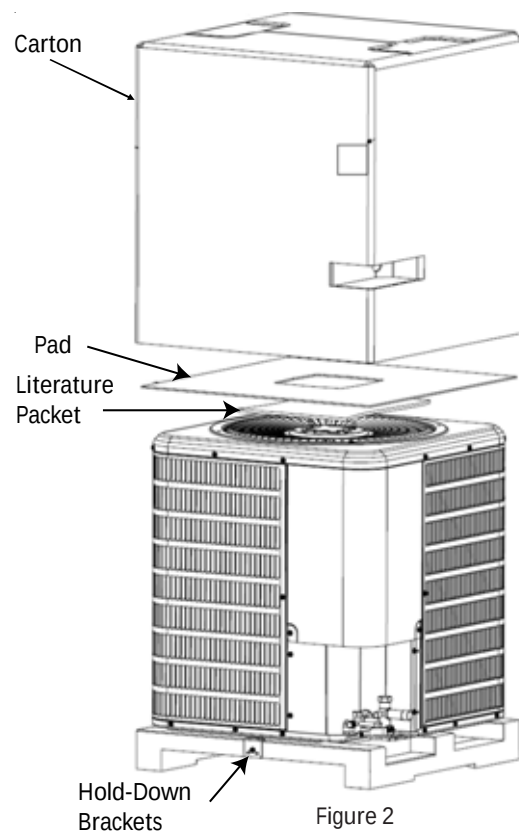

Figure 2
2. Lift and remove the carton and the pad. Figure 2.